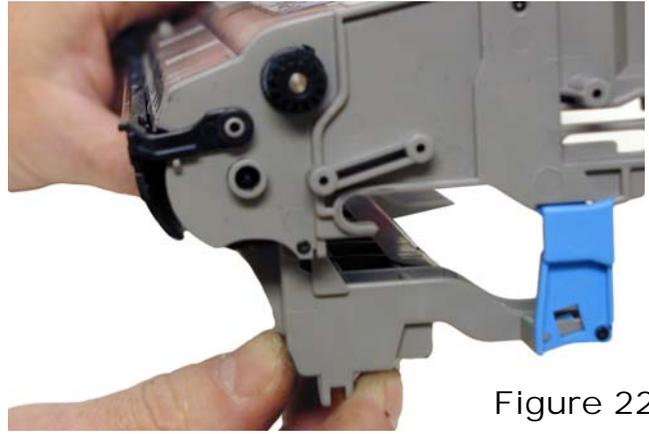

Figure 22
21) On the Drum unit, remove the drum cover non-spring side first. Turn the spring side so that the slot in the hole lines up with the pin and remove the cover. Watch out for the spring! See **Figures 22 & 23**